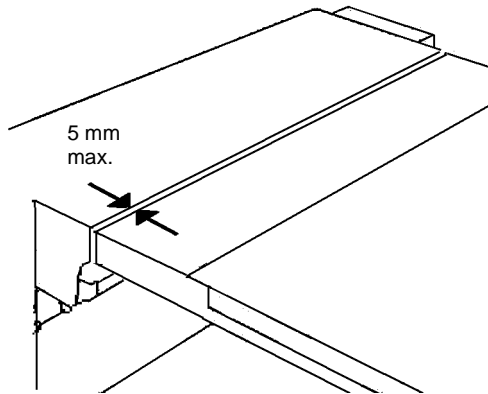
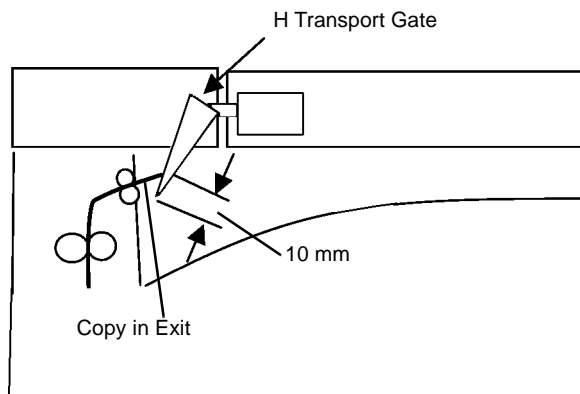

Figure 1 H Transport Clearance
Figure 2 H Transport Gate Clearance
1. Ensure H Transport is set correctly (Figure 1) and (Figure 2).